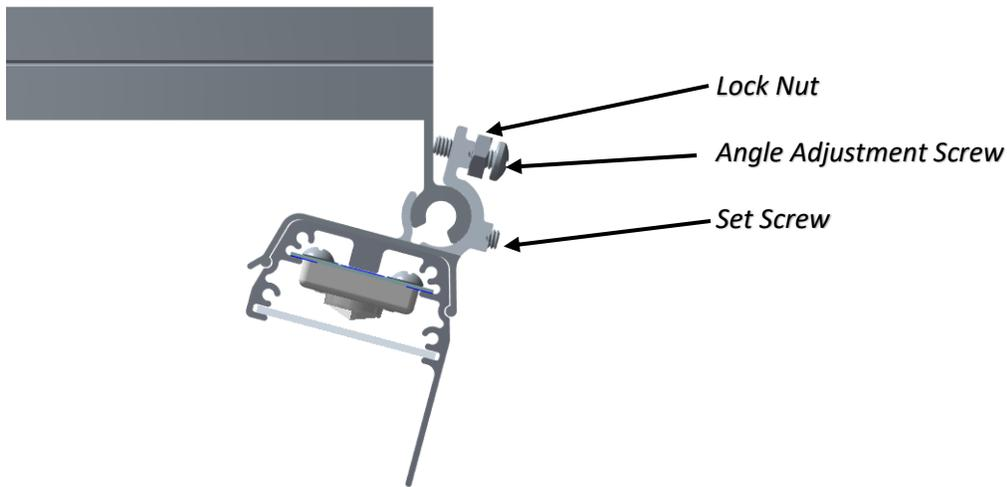

Figure 8 Variable Angle Mount Arm adjustment
1. After connecting the fixture assembly to the mount arms, some adjustment is required when using the variable angle mount arm. See Figure 8.
- Use the adjusting screw to help set the light angle. When angle is found use the lock nut on the adjusting screw to hold it in place while tightening the set screw. Refer to Figure 8.